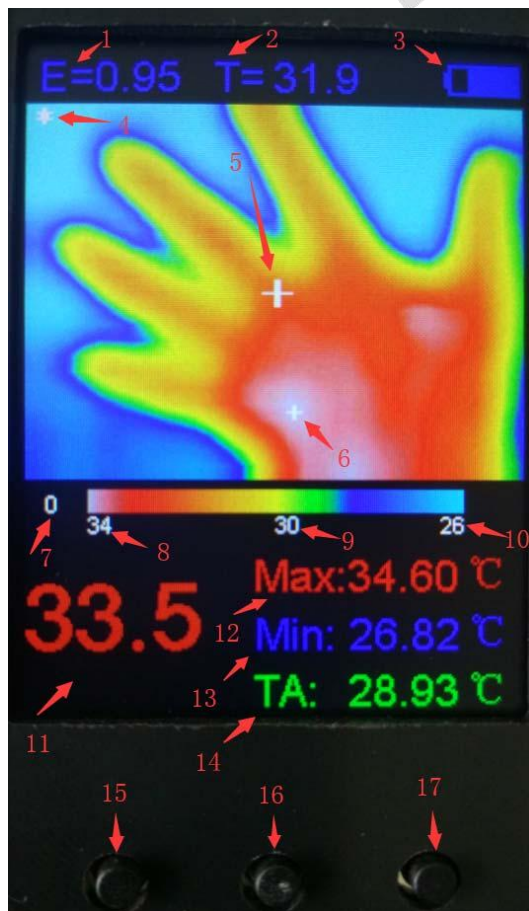

Figure 1
Press the power button (15 in Figure 1) for more than 3 seconds to enter the boot screen.
When the camera is in working condition, press the menu button (15 in Figure 1) for more than half a second, less than 3 seconds, release the button to enter the setting interface.
Then press the plus/minus key to select the item to be set, red represents the currently selected item, press the OK key (15 in Figure 1) to enter the item.